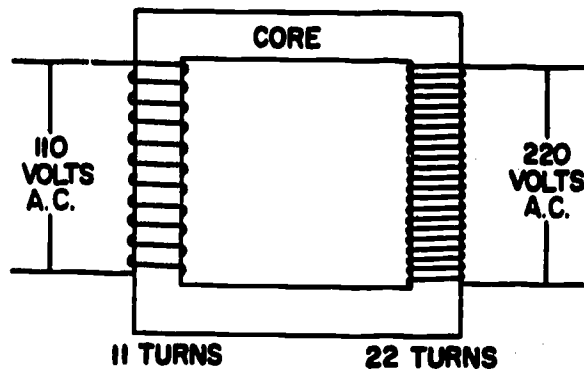

Fig 1-36. Transformer ratio.
The **RATIO** between the number of turns in the primary to the number of turns in the secondary determines the voltage ratio of the transformer. Figure 1-36 is a schematic diagram which illustrates the relationship between the turns ratio and the voltage. If the left-hand coil is connected to a 110-volt AC source, it would be the primary winding. The turns ratio would be stated as 1 to 2, the primary number being given first, since there are twice as many voltage turns (22) in the secondary as the primary. The voltage induced in the secondary (220) is twice the voltage applied to the primary. A transformer with a greater secondary voltage is called **STEP-UP TRANSFORMER**. If, in figure 1-36, you applied 220 volts to the 22-turn winding, the output of the secondary (11 turns) would be 110 volts. This would be called a **STEP-DOWN TRANSFORMER** because the secondary voltage would be less than the primary. The ratio of the transformer when connected in this way is stated at 2 to 1.